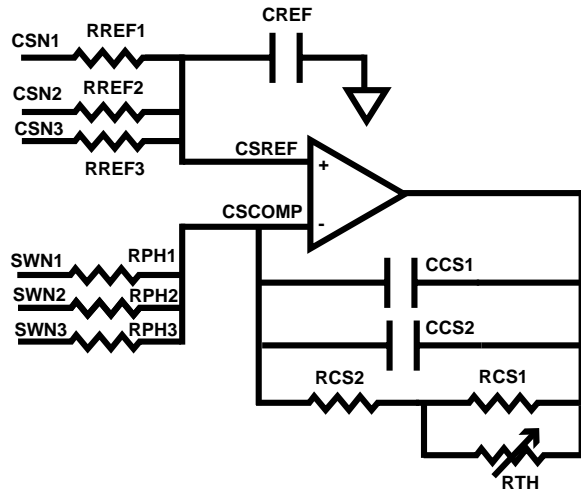

Figure 3: A typical Total Current Sense Amplifier
The R_{ref} resistors average the voltages at the output sides of the inductors to create a low impedance reference voltage $CSREF$. The R_{ph} are used to set the gain of the current sense (CS) amplifier and influence the loadline. Figure 3 below is showing an example of a two phase current sense amplifier.